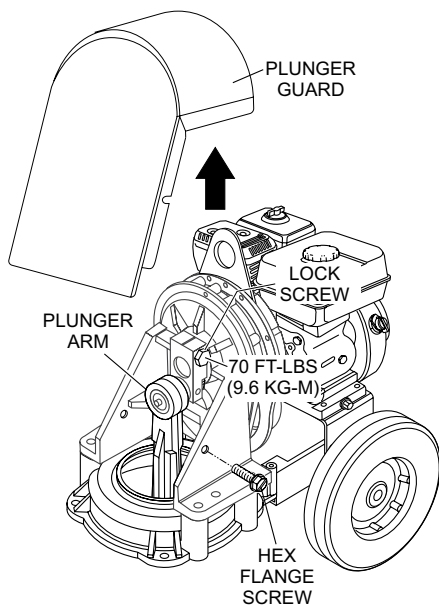

Figure 25. Lock Screw Torquing
1. Remove plunger guard (Figure 25) by removing the two 1/4"-20 X 3/4" hex flange screws that secure plunger guard to the gearbox feet
3. Using a torque wrench, torque lock screw (Figure 25) to 70 ft.-lbs. (9.6 kg-m).